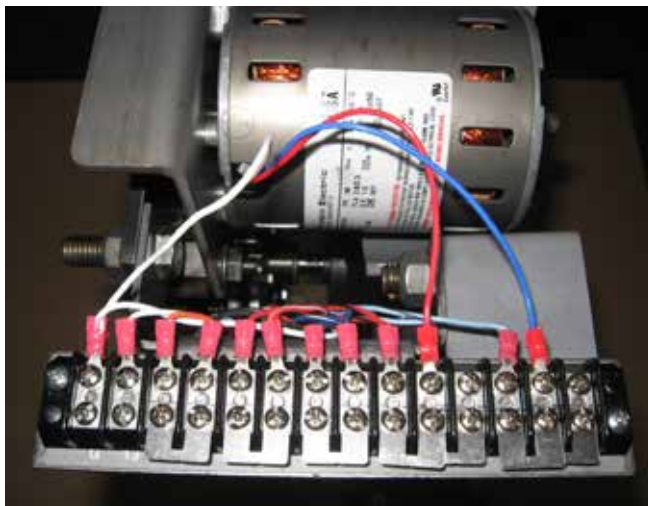

Figure 123. Wiring connections.
- The motor wire connection points are as follows: the white wire connects to terminal "G"; the red wire connects to terminal #5 and the blue wire connects to terminal #2. Trim the motor wires with a diagonal cutter allowing an extra two inches of wire between the motor and the connection points. Strip 1/4" of wire insulation from the end of each wire. Crimp a supplied ring tongue connector to the end of each wire, making sure the wire is fully inserted into the ring tongue connector. The wire should not stick out of the connector by more than 1/16 (1.5 mm) of an inch. Attach the ring tongues to the motor connection points on the terminal board as described above. Refer to Figure 123.